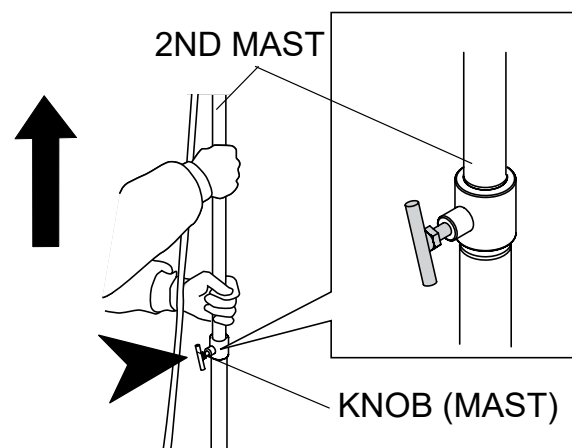

Figure 13. Extending the Second Mast
3. Loosen the mast knob and extend the second mast to the desired height (Figure 13).